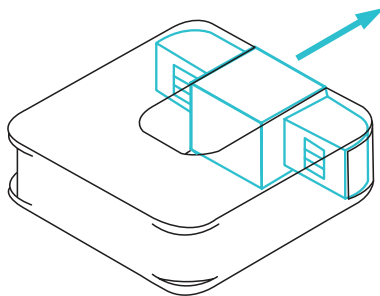

Figure 1 Opening the Split-Core Current Transformer
1. Hold the bottom section and pull the split-core top section apart to open the CT as depicted in Figure 1.